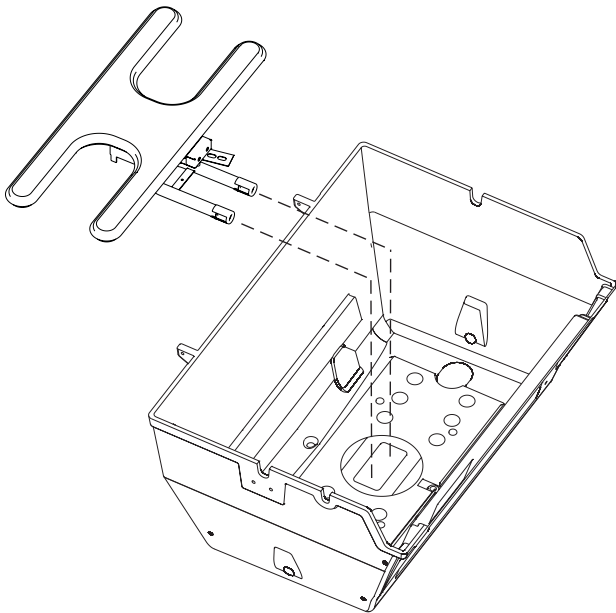

Figure 12
1. Insert the burner assembly into the grill bottom with the venturi tubes facing the front of the grill. **See Figure 12.**